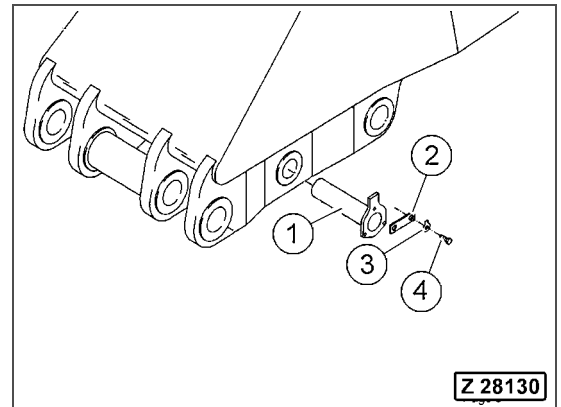

Fig. 5-115
- Remove the bolts (Fig. 5-115, Pos. 3), the washers (Fig. 5-115, Pos. 2) and the shackle (Fig. 5-115, Pos. 4).
- Remove the pin (Fig. 5-115, Pos. 1) to clear the bucket cylinder from the boom.